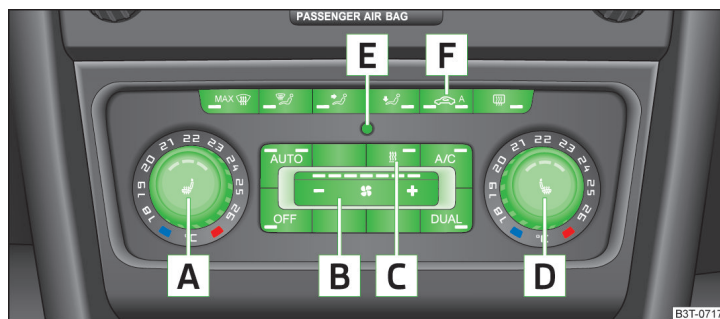

Fig. 125 Climatronic: Control elements
Functions of the individual controls » Fig. 125 :
► Press the **AUTO** » Fig. 125 on page 113 button.
► Turn the control dial **[A]** » Fig. 125 on page 113 to the left or right to increase or decrease the temperature.
► Turn the control dial **[D]** » Fig. 125 on page 113 to the left or right to increase or decrease the temperature.